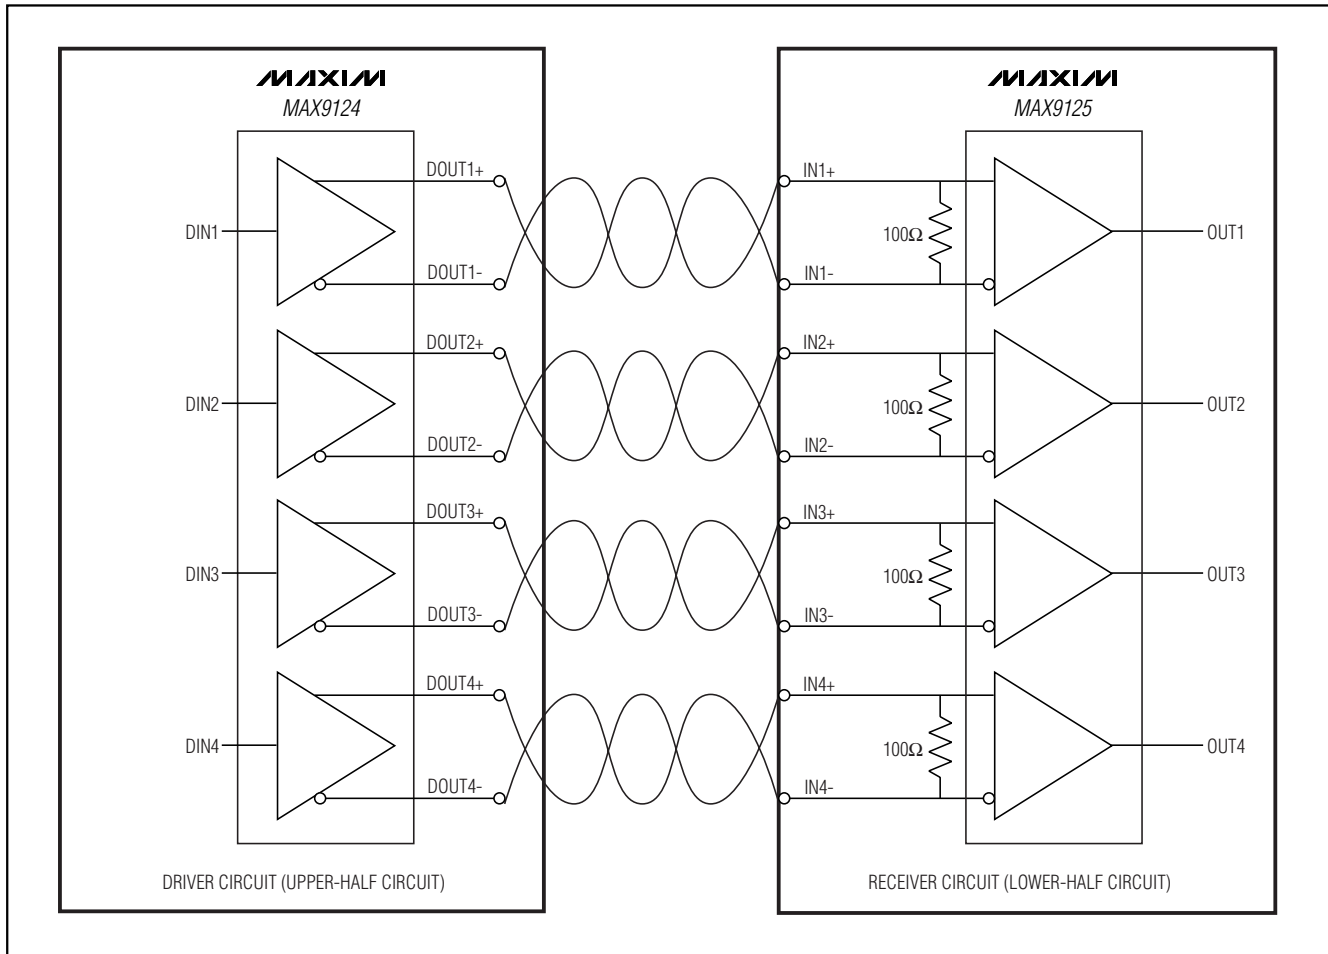

Figure 1. Twisted-Pair Cable Interconnect Diagram
- 3) Connect a scope probe across jumper JU25 (OUT1). Use 100 Ω twisted-pair cable to connect the driver outputs to the receiver inputs as shown in Figure 1.